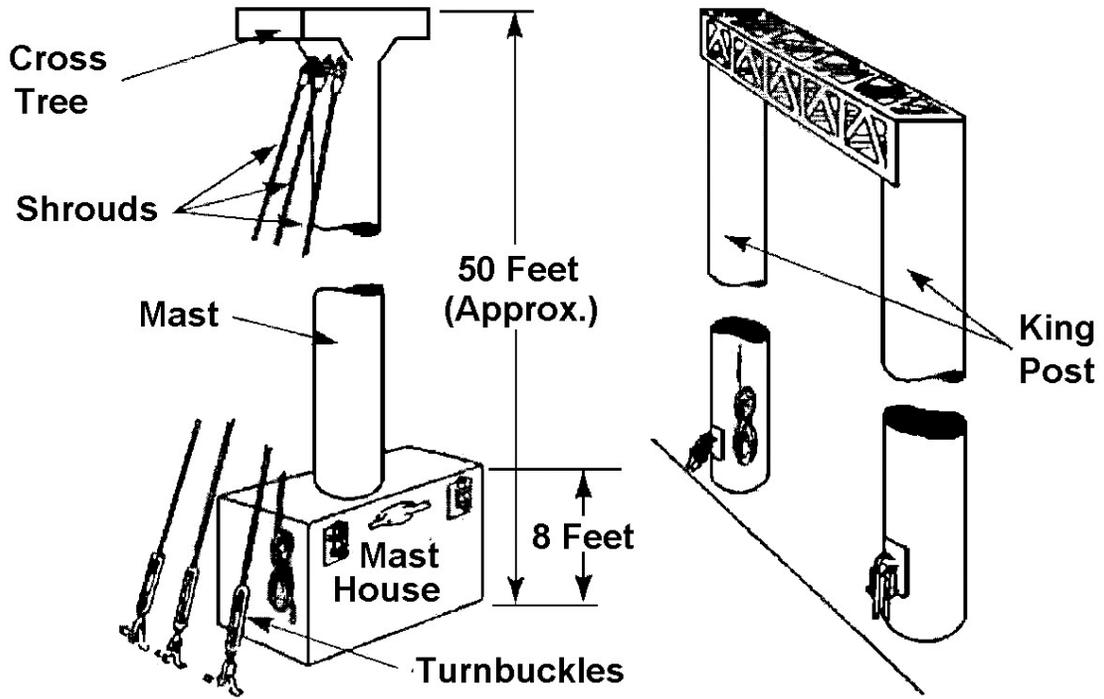

Figure 3-28
6. Inspect standing rigging (see Figure 3-28).